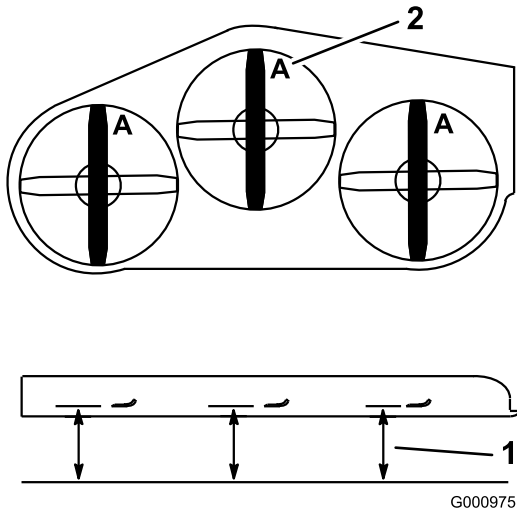

Figure 77
3. Rotate the blades until the ends face forward and backward. Measure from a level surface to the cutting edge, position **A**, of the blades (Figure 77). Note this dimension.